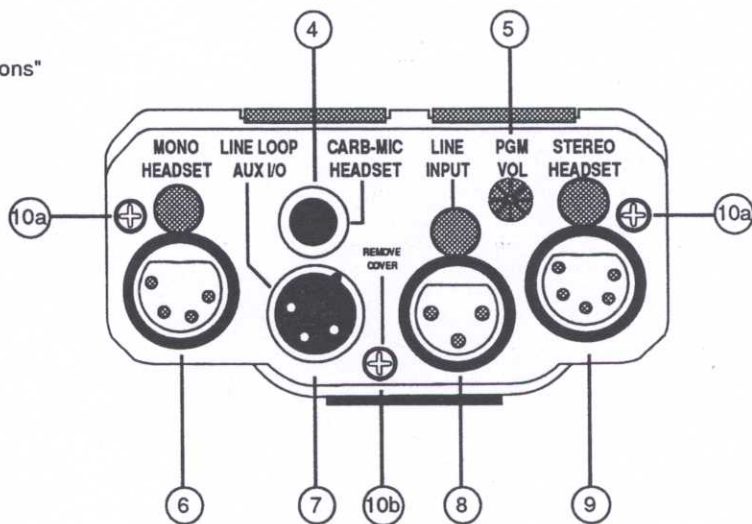

Figure 1. BP325 Reference View
Several internal option switches and jumpers can modify the belt pack's operation. The factory settings are summarized below. To change any of the factory settings, remove the rear cover screws as shown in Figure 1. Jumper and switch locations are shown on the label inside the rear cover.
1. Referring to Figure 1, remove all three screws (10a and 10b) on the back connector panel of the BP325. Remove the rear cover/belt clip assembly.